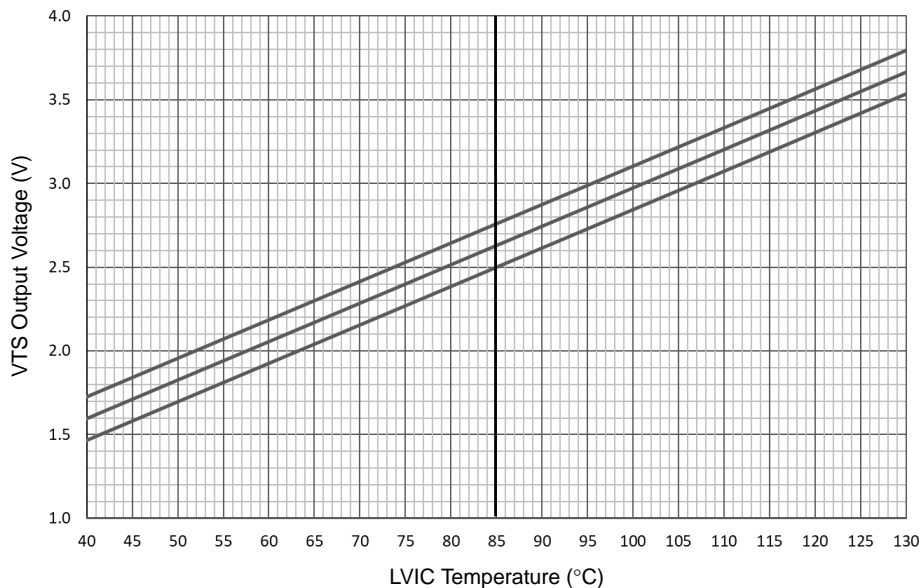
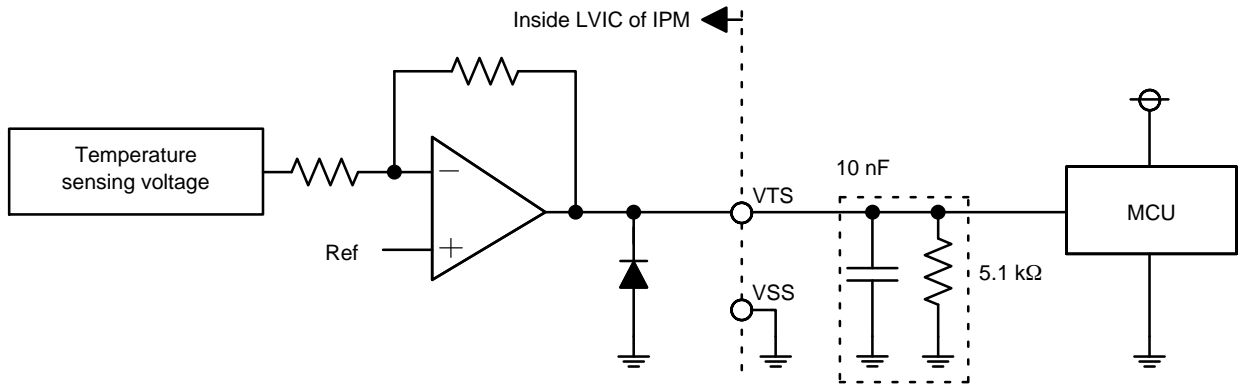

Figure 4. Temperature of LVIC vs. VTS Characteristics
Figure 5. Internal Block Diagram and Interface Circuit of VTS
- TLVIC is the temperature of LVIC itself. VTS is only for sensing temperature of LVIC and cannot shutdown IGBTs automatically. The relationship between VTS voltage output and LVIC temperature is described in Figure 4. It is recommended to add 5.1 kΩ pull down resistor between VTS and VSS (Signal Ground) as described in Figure 5 for linear output characteristics at low temperature. Refer to the application note for usage of VTS.
To avoid malfunction, the wiring of each input should be as short as possible (less than 2–3 cm). Each capacitor should be mounted as close to the pins of the product as possible. VFO output is open–drain type. This signal line should be pulled up to the positive side of the MCU or control power supply with a resistor that makes IFO up to 1 mA. Please refer to Figure 5.